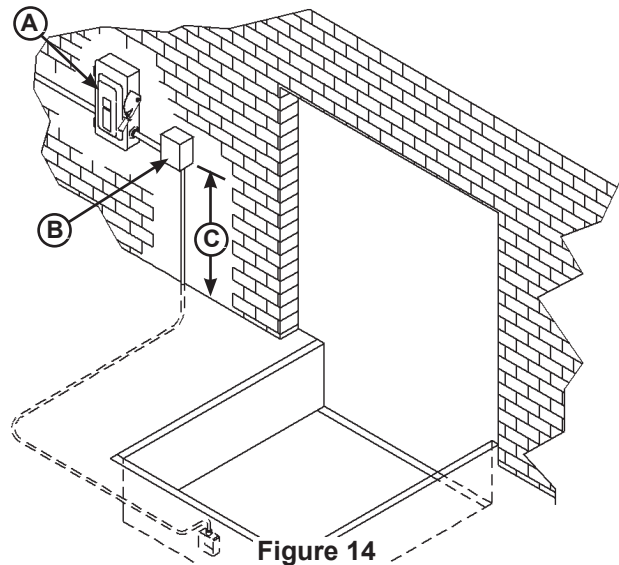

Figure 14
1. Mount the push-button control panel (B) so bottom of control panel-to-dock floor distance (C) is approximately 48 in. (1219 mm). See Figure 14.
2. Install electrical disconnect panel (A) if not already installed. Disconnect panel supplied by others.